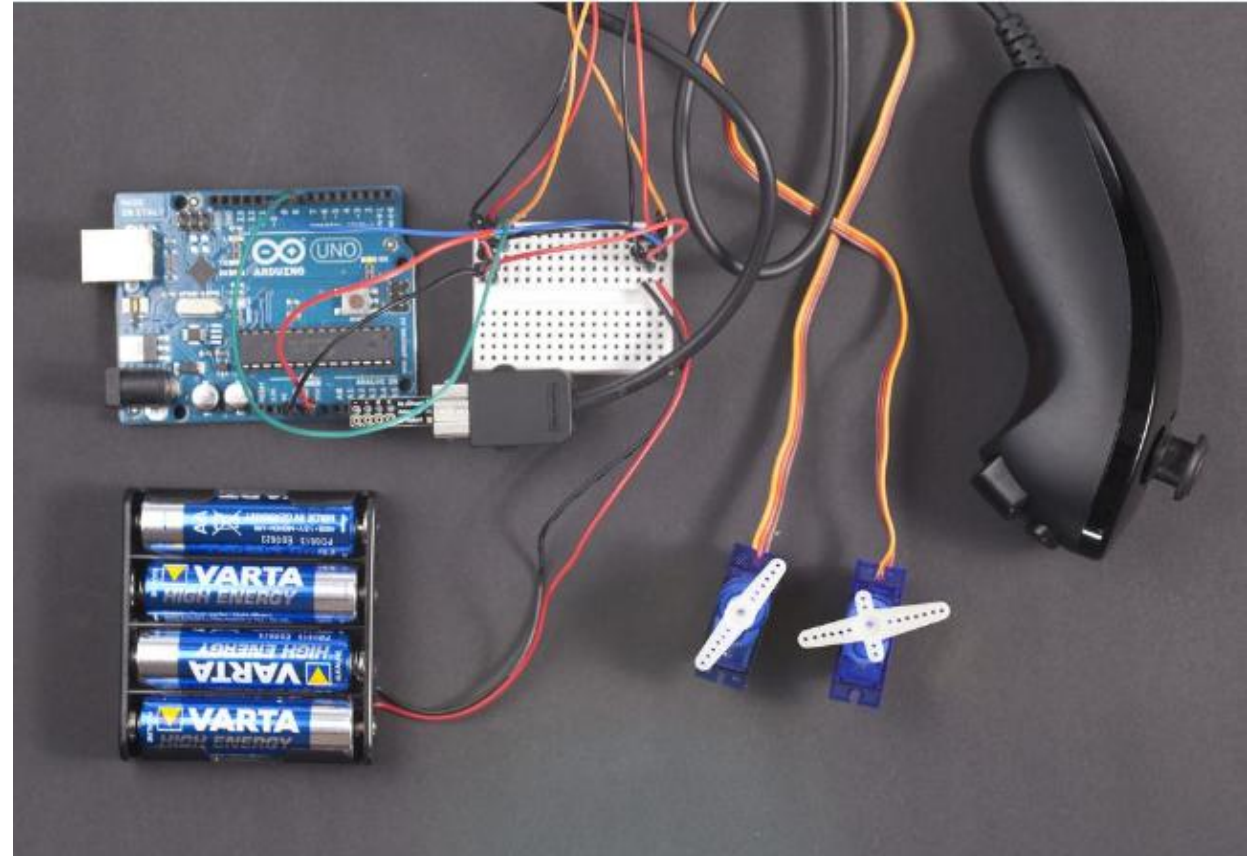

Figure 8-11. Nunchuk controls two servos with Arduino
- Start with just the servos (Figure 8-11).